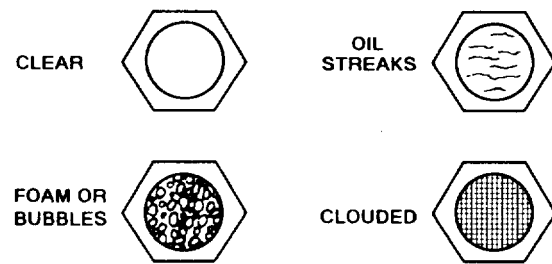

Figure 13-4.—Possible sight glass conditions.
- **Sight Glass**—A sight glass is a small, round, glass-covered hole, sometimes mounted on the outlet side of the receiver near the top. This observation hole is a visual aid you use in determining the condition and amount of refrigerant in the system. If bubbles or foam is observed in the sight glass while the system is operating (above 70°F [21°C]) (fig. 13-4), it may indicate that the system is low on refrigerant. Some systems have a moisture-sensitive element built into the sight glass. If excessive moisture is present, the element turns pink. If the system moisture content is within limits, the element remains blue. In many later automotive air-conditioning systems, the sight glass has been eliminated. In such applications, you must depend on the system pressures.